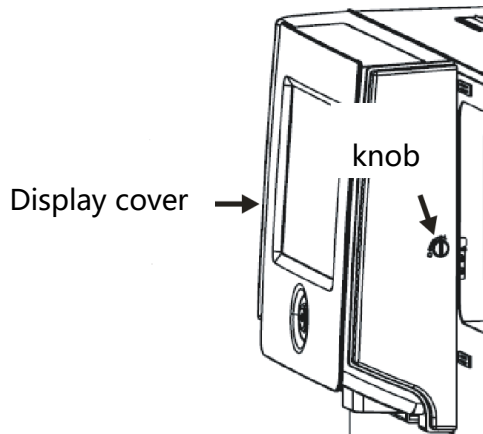

Figure 2-1-1
2. Open the right front shell of the instrument, turn the knob on the left side of the screen cover counterclockwise (see Figure 2-1-1), open the screen cover, and remove the fixed accessories on the sample probe rack. After removal, close and fasten the screen cover, rotate the left knob of the screen cover clockwise, and lock the screen cover.